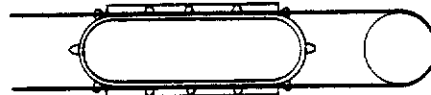

Figure 2-15. Side View of Paper Path, Rear Paper Feed.
12. Close the lid; the paper is loaded. If you had any difficulty following the procedure, figure 2-15 will help. It shows a side view of the overall paper path for rear paper feed.